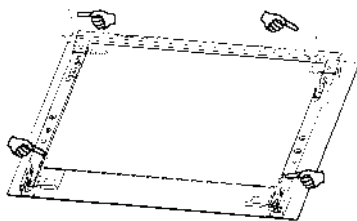

Figure 11
3. To put the middle glass on the corresponding holders accurately, and tighten the screws, as shown in figure 11.